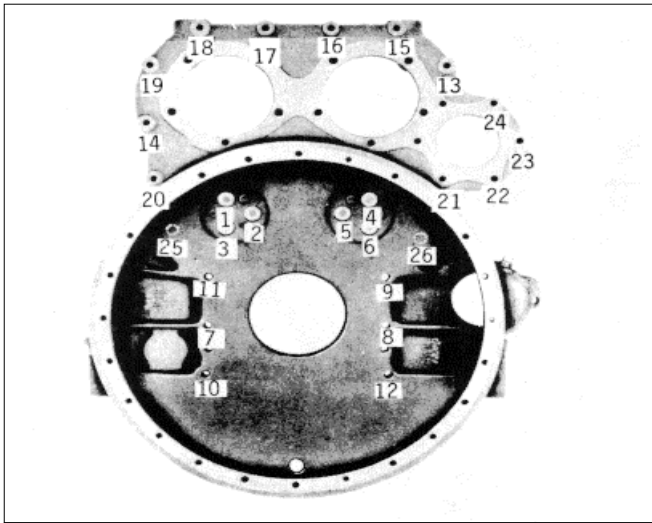

Fig. 3
- (7) Install the six 1/2"-13 housing to block bolts with lockwashers, finger tight.
- (8) Install the remaining flywheel housing attaching bolts and washers, finger tight.
- (9) Refer to Fig. 3 for the bolt tightening sequence. Start at number 1 and, using the proper sequence, bring all bolts to within 10-15 ft-lbs (14-20 Nm) of their specified torque, drawing the mating parts together evenly.